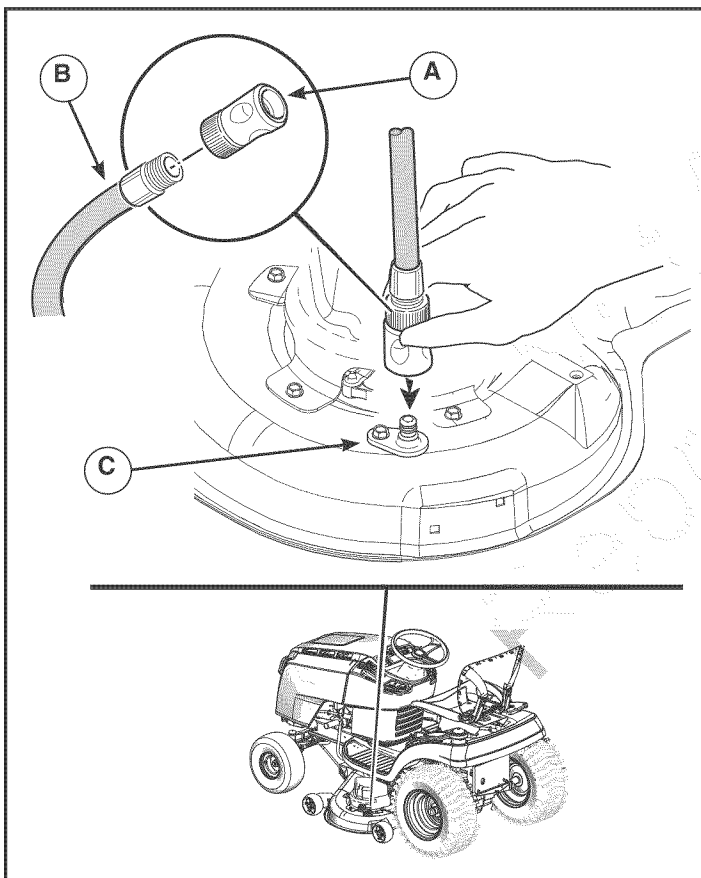

Figure 14
2. Attach the quick disconnect (A, Figure 14) to garden hose (B) and connect to washout port (C) on mower deck.